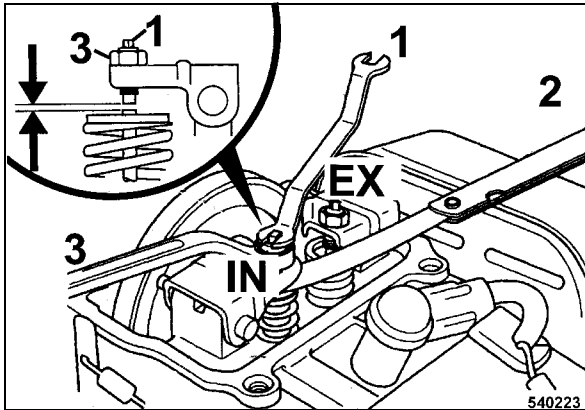

Fig. 54
- Measure the valve clearance with a feeler gauge (2) (Fig. 54).
- To adjust the valve hold the valve adjustment screw (1) and loosen locking nut (3).